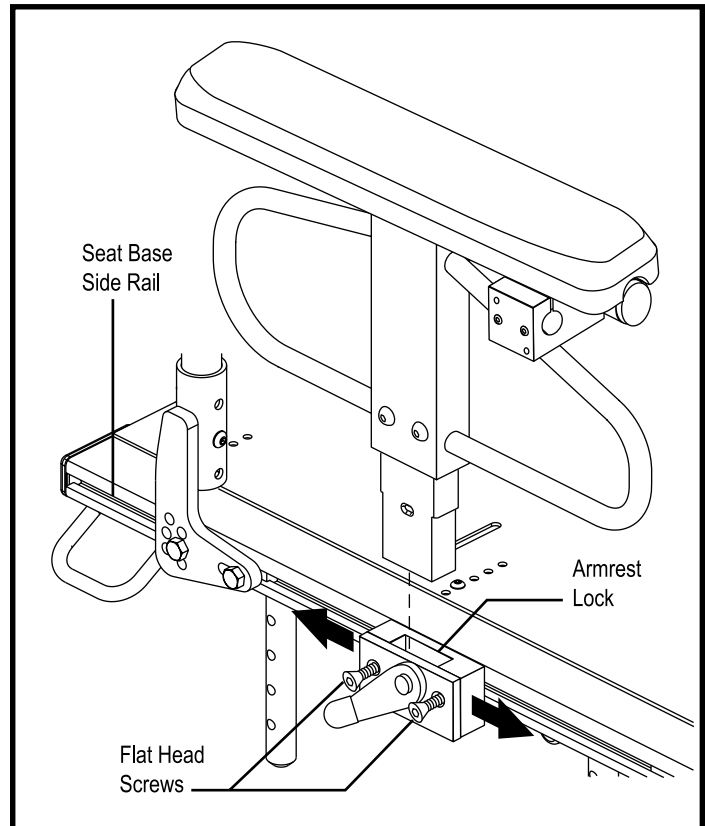

Figure 11. Armrest Position Adjustment
2. Loosen the flat head screws that fasten the armrest lock to the seat base side rail. See figure 11.
5. Install the armrest in the armrest lock. See figure 11.